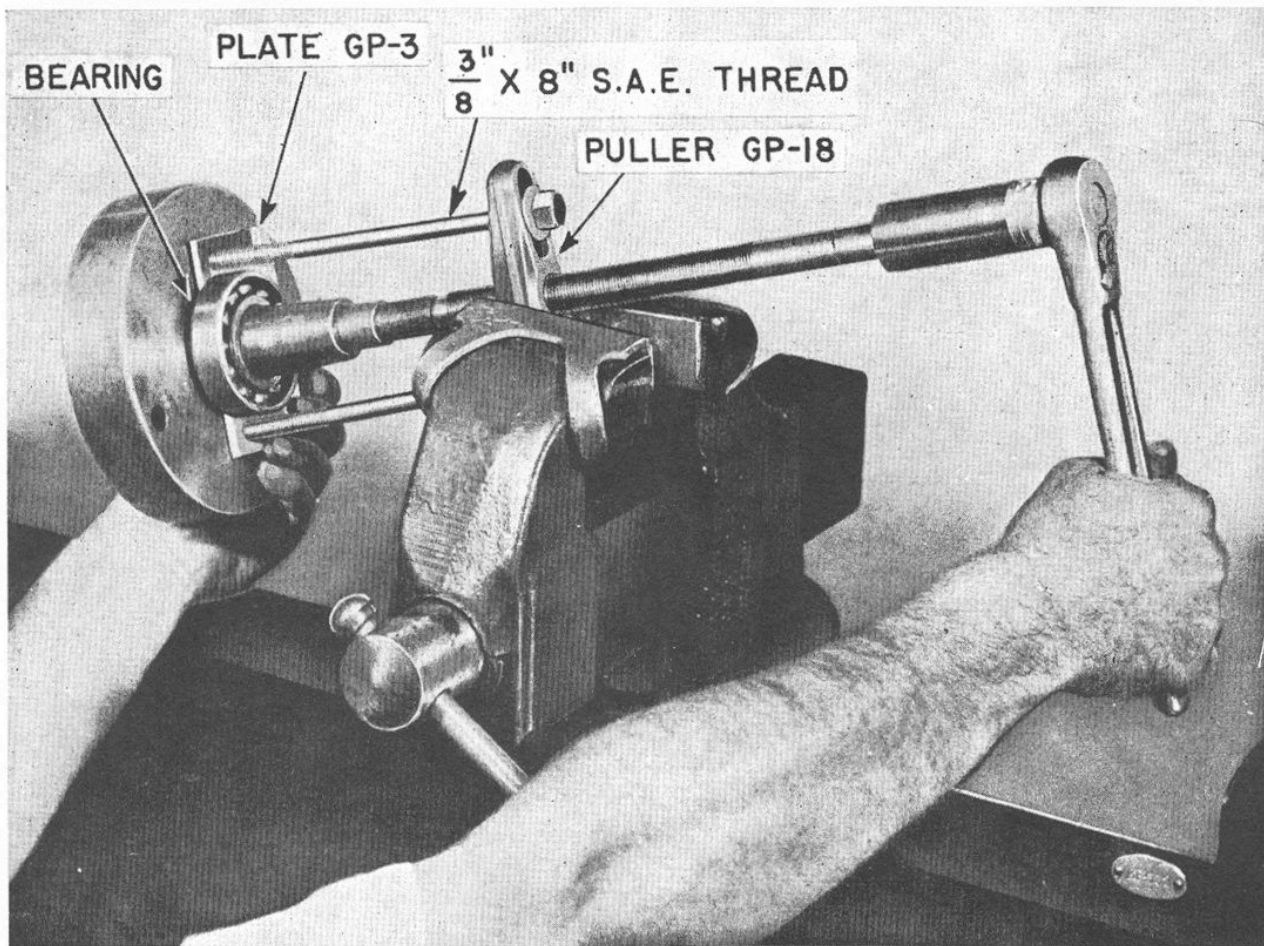

FIG. 12—REMOVING CRANKSHAFT BEARING
- a. From each half of crankshaft, remove oil seals using plate GP-3 with puller GP-18. (See figure 12.)